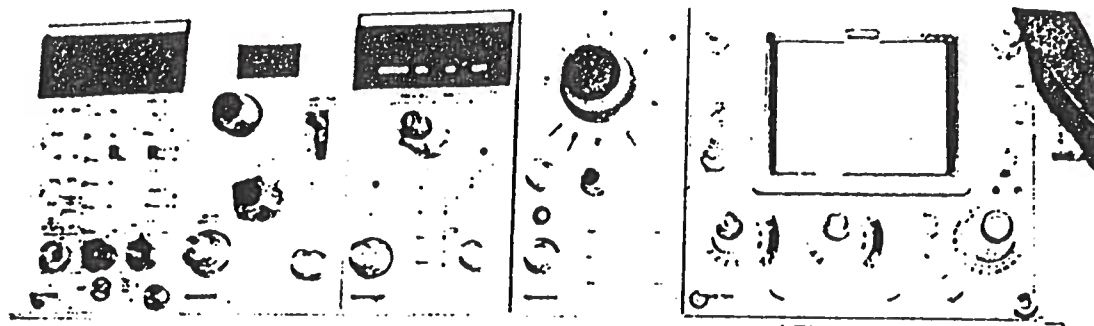

Figure 20, Tektronix Test Set
- b. Tektronix DM501A Digital Multimeter (figure 20)
- c. Tektronix SG502 Oscillator (figure 20)
- d. Tektronix DC508A Frequency Counter (figure 20)
- e. Tektronix SG503 Signal Generator (figure 20)
- f. Tektronix SG504 Oscilloscope (figure 20)
- g. Tektronix RTM506 Rack Mount (for items b-f) (figure 20)